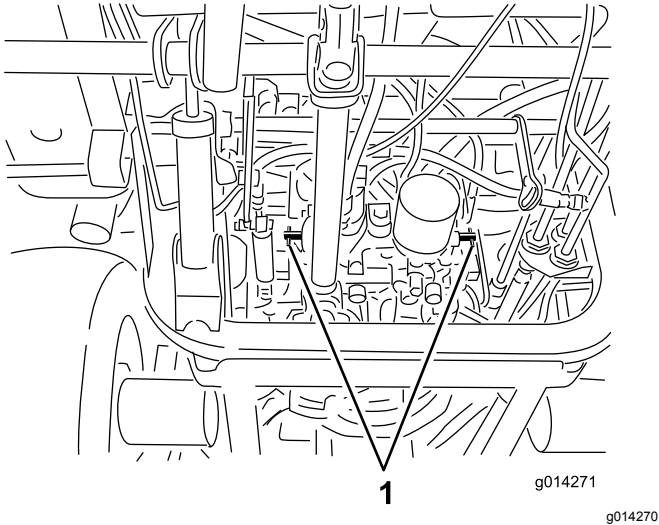

Figure 26
3. Rotate each bypass valve counterclockwise 1 turn (Figure 26).
1. Rotate each bypass valve clockwise 1 turn and hand tighten them (Figure 26).
2. Torque the valves approximately 8 N·m (71 in-lb) as shown in Figure 26.